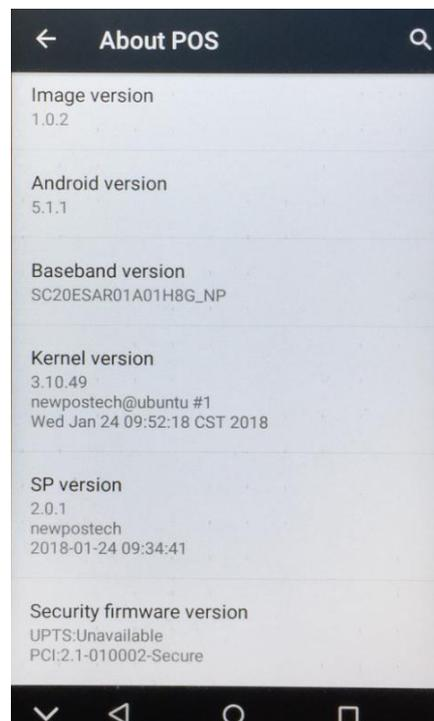

Figure 3: Firmware version
3. You can see the Android version, Kernel version and Security Firmware version, as Figure 3.
The device picture and screen shots of version information please refer Figure 1 and Figure 3.